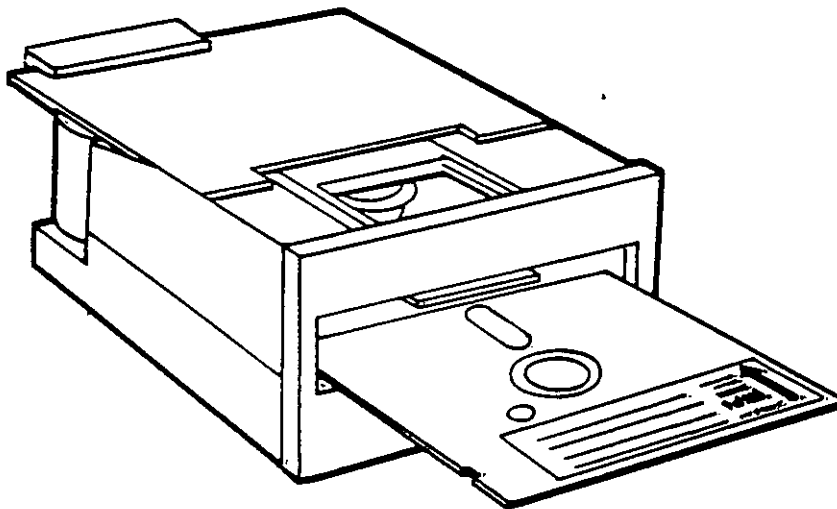

Figure 2-2: Diskette Orientation
C. Remove diskette from its storage envelope and insert in the drive. The index hole must be on the left side of the jacket and the label on the right towards the door. (See Figure 2-2.)